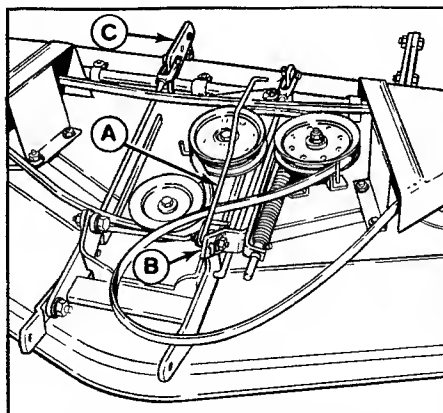

Figure 1. PTO Rod
2. Notice that one end of the PTO rod (A, figure 1) does not have a drilled hole. Insert this end into the mower PTO arm (B) and work around until rod (A) appears as in figure 1.